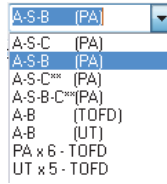

Figure 4-36 List of available layouts
2. From the list of available layouts, choose the most appropriate (Figure 4-36 on page 133).